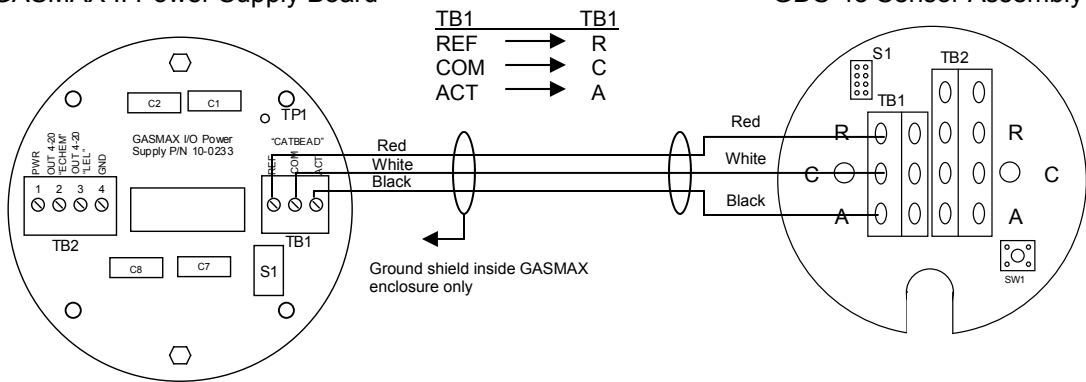

Fig 2. GASMAX II to GDS-48 Wiring Diagram for Catalytic Bead
- 3) Connect the GASMAX to the GDS-48 as shown in Fig. 2 (see back). (R = Reference Bead, C = Common, A = Active Bead)